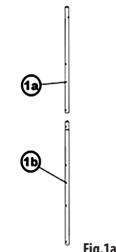
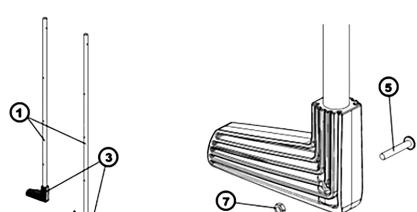

Fig. 1a
Fig. 1b
Put the lower elbows (3) on the correct ends (according to the holes) of stile tubes (1). Secure them in place using appropriate screws (5) and nuts (7) (**Fig. 1b**). For the divided ladder intended for the pools of 1.20 m depth pair the upper part (1a) and the lower part (1b) of stiles, (**Fig. 1a**).